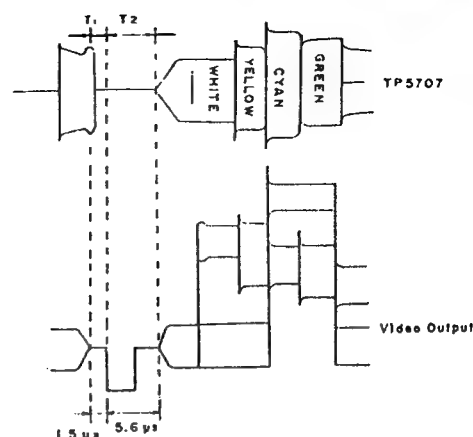

Figure 2-16.
2. Connect an oscilloscope to TP5702 and video output terminal and make sure that the chroma signal output is just as shown in Fig 2-16.